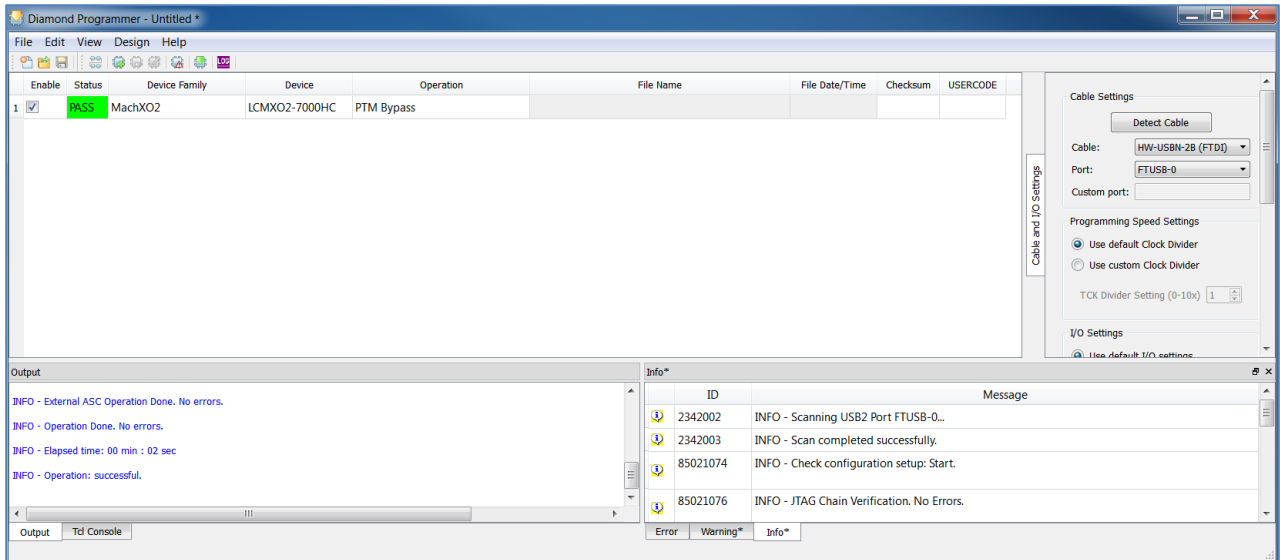

Figure 5.22. ASC Socket – Programming Completed
- When the programming of the device is completed, the **Status** option changes to **PASS** and **Operation: successful** message appears in the **Output** console as shown in Figure 5.22. During the programming activity the MXO2\_SDA and MXO2\_SCL LED light blink on the board showing communication between the MachXO2 and ASC devices. *Done* is not a dedicated output in the MachXO2 family. *Done* LED indication is not supported.